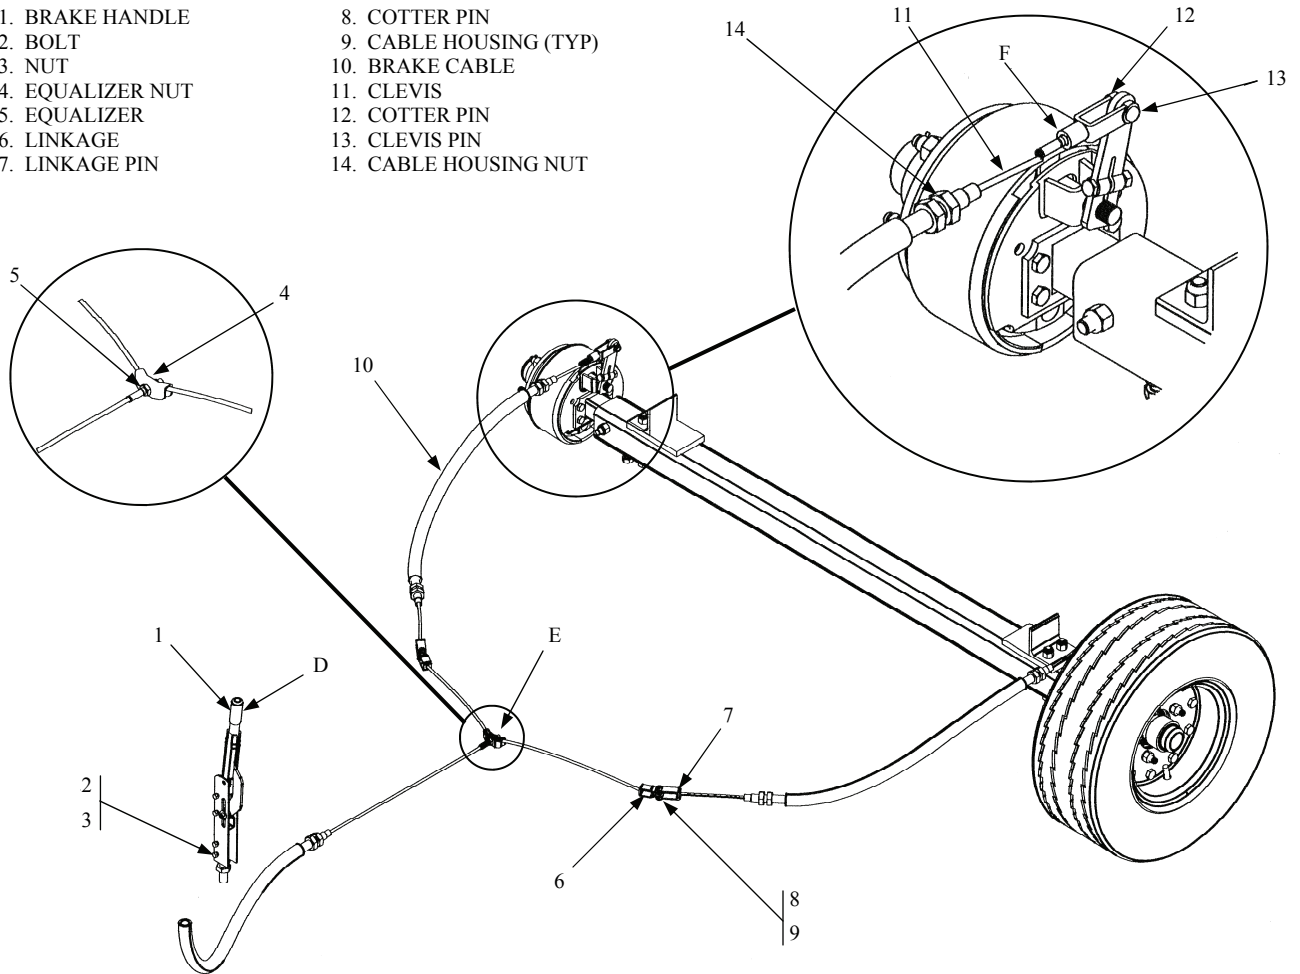

Figure 5-11. Brake Handle And Cable Assembly
5.3.4.3.1 Brake Handle and Cable Assembly. The brake handle and cable assembly only need to be disassembled to the point that the repair is needed. These instructions start at the wheel assembly and progress toward the brake handle. (See Figure 5-11).
- a. Remove cotter pin (12) and clevis pin (13) to release clevis (11).
- b. Unthread clevis (11) from cable (10).
- c. Remove nut (14) and remove cable housing (10) from bracket.
- d. Remove nut at opposite end of cable and disassemble cable linkage parts (6), (7), (8), and (9).
- f. Remove nut (4) to release cable equalizer (5).
- h. Remove nut at opposite end of cable and release cable by disassembling cable linkage from brake handle (1).
- i. Remove bolts (2) and nuts (3) to free brake handle (1).
- f. Remove spring (3).
- g. Release brake shoes (2) by removing springs (9) from the backing plate (1).
- h. Remove nut (7), lock washer (8), and bolt (6) to release arm (5).
- i. Remove brake cam (4) by pulling directly outward.
5.3.4.3.3 Parking Brake Adjustment. The parking brake can be adjusted at three different locations. An in-field adjustment can be made at the brake handle by turning the handle cap clockwise to tighten brakes and counter-clockwise to loosen the brakes (See reference arrow D.) This adjustment must be made with the brake handle in the off position. Maintenance level adjustments can be made at reference arrow E and reference arrow F (each side). See Figure 5-11.